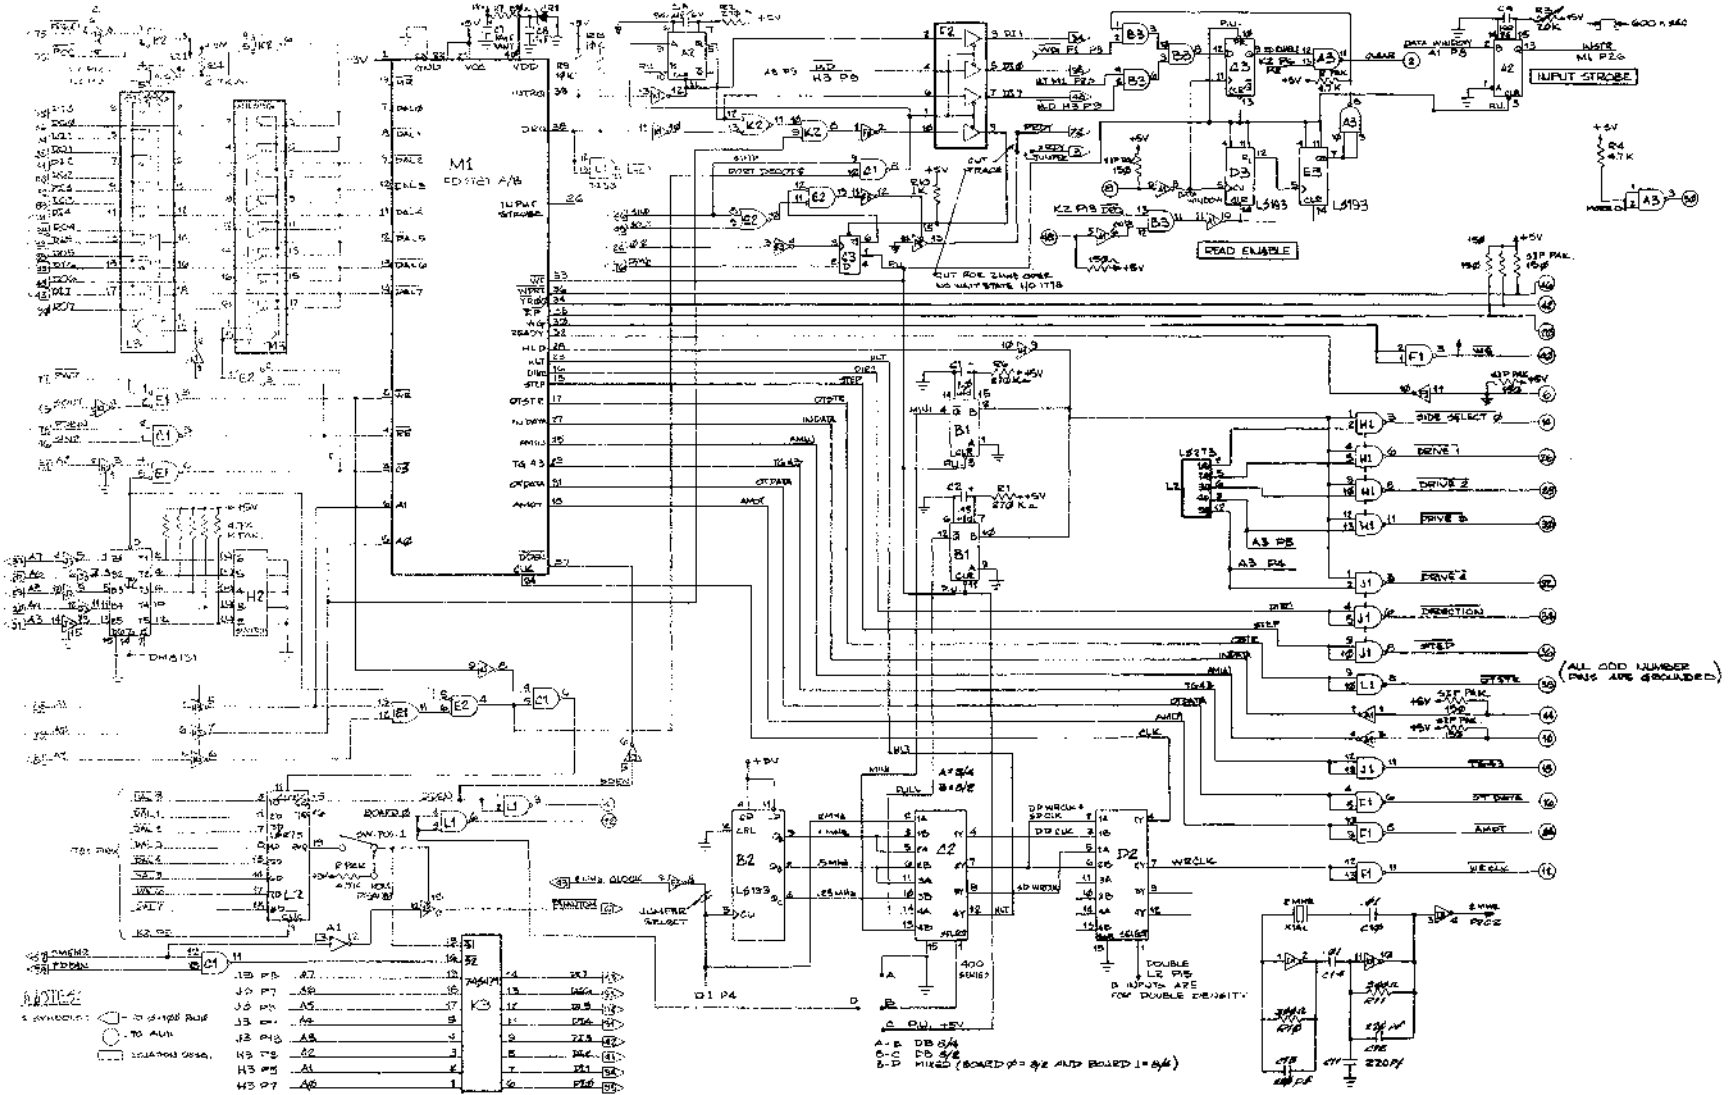

Figure 7-1 -- Main Disk Controller -- 800741 -- Logic Diagram
7.01 Figures 7-1, 7-2 and 7-3 will furnish the user with schematic diagrams of the Main and Auxiliary Disk Controller. Tables 7-1, 7-2 and 7-3 are replaceable parts lists of Main and Auxiliary Disk Controller pc assemblies indexed by reference designator appearing on the respective schematic. Enough information is furnished so the maintenance technician should be able to purchase replaceable parts from a local supplier or make a substitution if necessary. Disk Controller PC Assemblies, ROMs and I/O cables should be ordered directly from Dynabyte Customer Support Service.